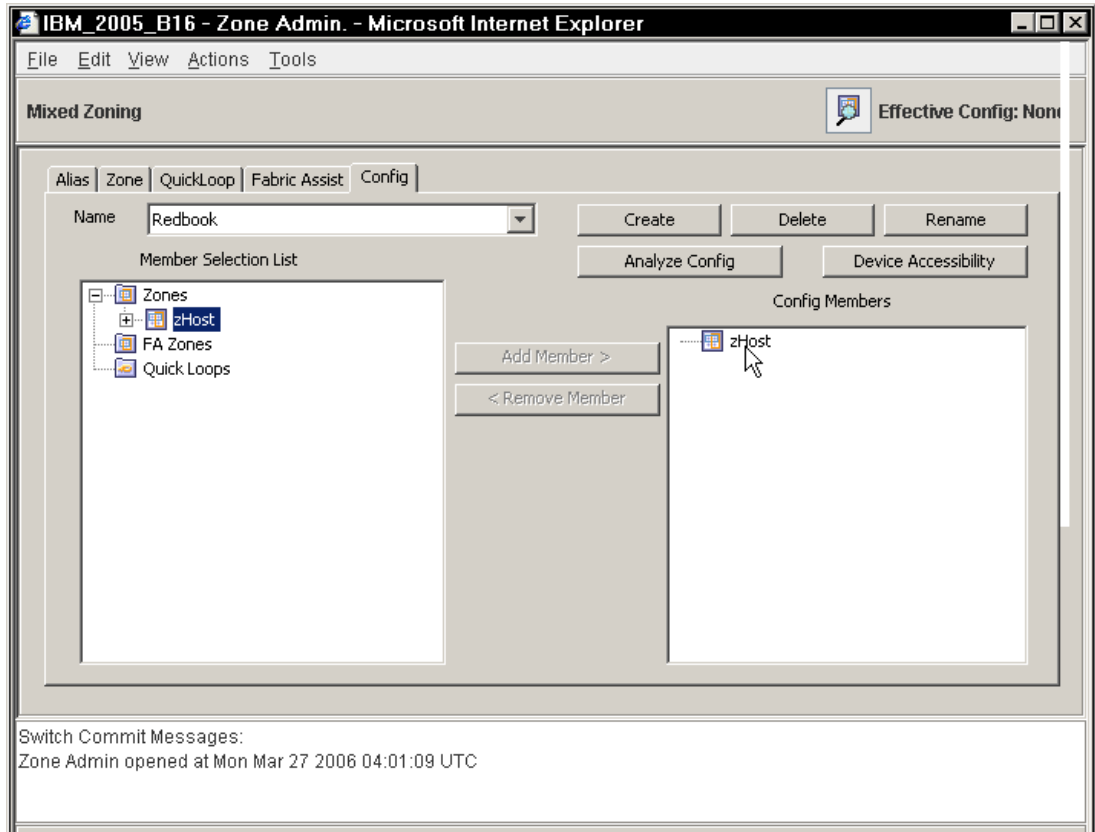

Figure 21 Config Creation
15. Expand the Zones option, and click the **Add Member** button to move all the zones into the Config Members box. When you are done, it will look like Figure 21 on page 21. (Of course, yours will likely have more than one zone.)